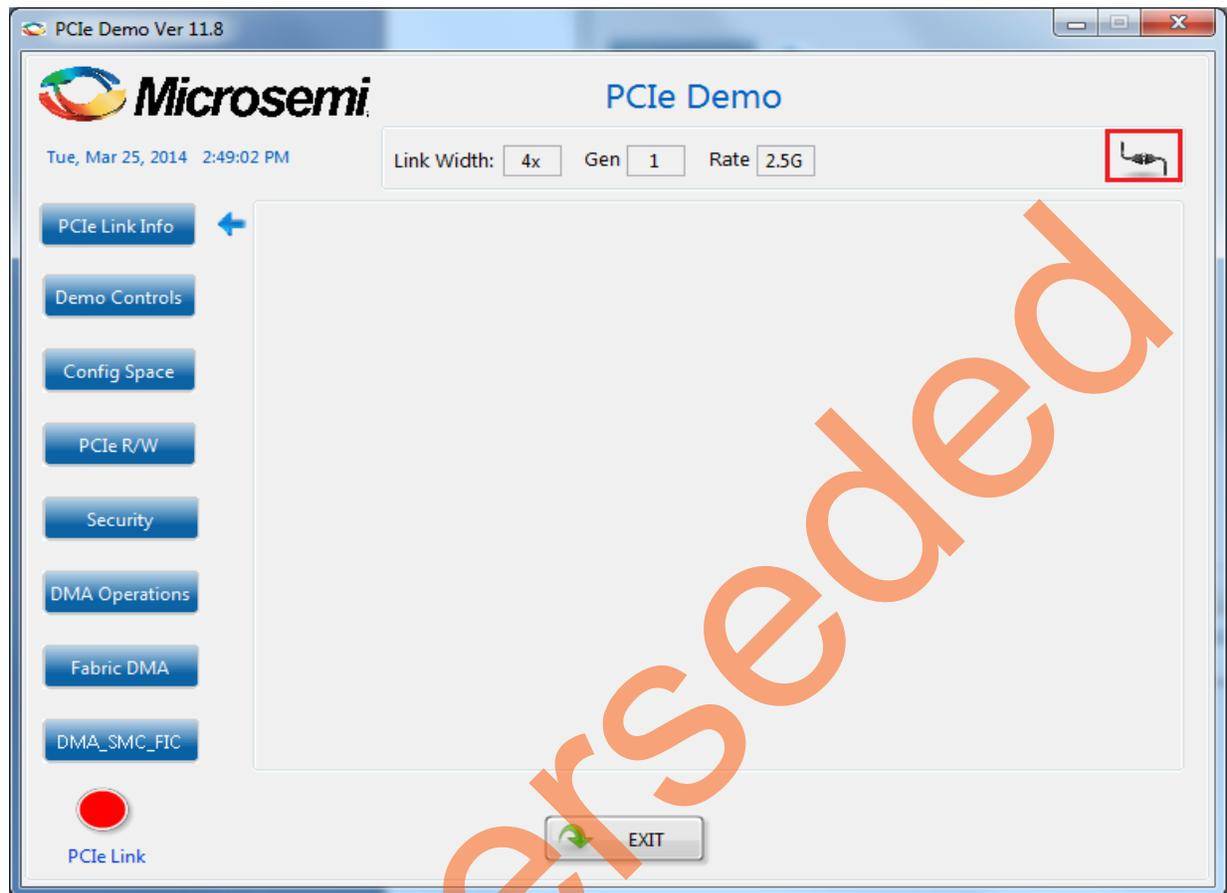

Figure 18 • PCIe Demo GUI
- Invoke the GUI from **ALL Programs > PCIeDemo > PCIe Demo GUI**. The GUI is displayed as shown in Figure 18.